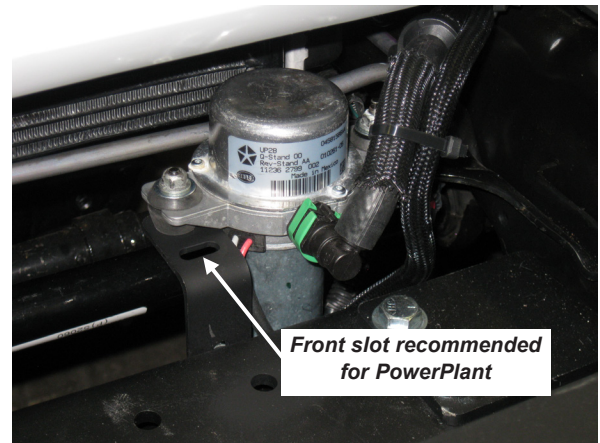

Figure 15
13. Attach the Frame Brackets to the Bumper with 2 each 7/16 x 1-1/4" capscrews and flat washers, lock washers and hex nuts per side. Do not tight yet. Figure 15
14. Attach the "free" ear of the vacuum canister to a slot in the Relocation Bracket with the 6mm capscrew and flat washer provided. The rear slot will be used for most winches. The front slot is better for the PowerPlant. Use the factory 6mm flange nut to secure it. Secure the other ear to the factory bracket using the original flange nut. Make sure the canister, hoses, fittings and wires are not strained, kinked, pinched or rubbing against any moving parts. Use wire ties as needed. Figure 15